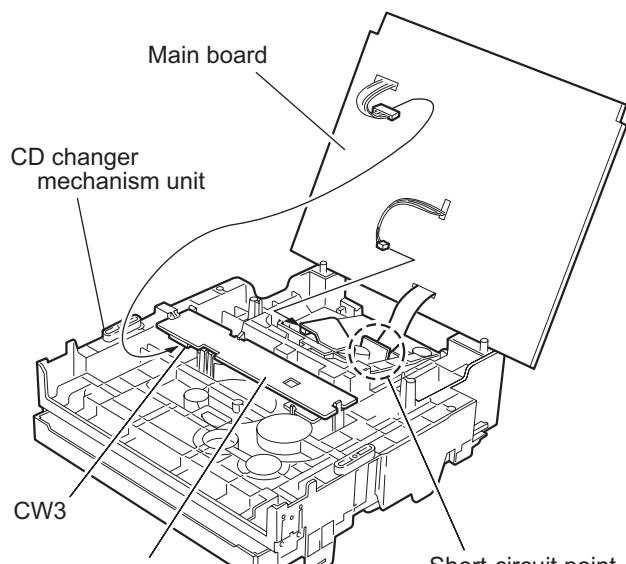

Fig.45
- (1) From the bottom of the CD changer mechanism unit, remove the two screws **T'** and the four screws **U'** attaching the main board.
- (2) Disconnect the wire from connector on the main board.
- (3) Move the main board in the direction of the arrow as shown in Fig.45, disconnect the wire from connector on the motor board in the inner part of the main board.
- (4) Move the main board turning in the direction of the arrow as shown in Fig.45.
- (5) Solder the short-circuit point on the CD pickup board and disconnect the wire from the CD pickup board.